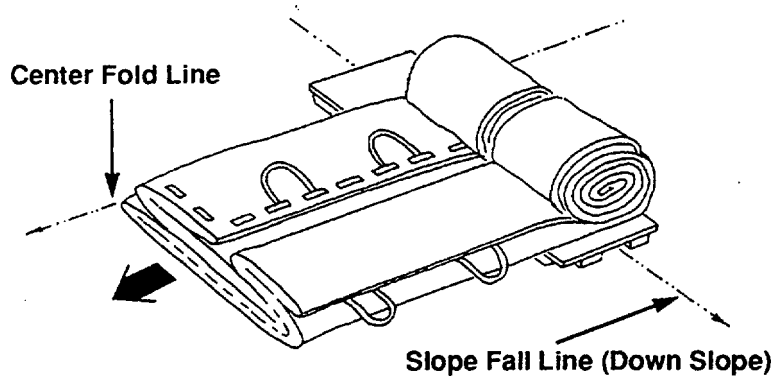

Figure 4-2. Skid Removal-A
- (3) Unroll one end of tank by pushing on roll. (See figure 4-2.)